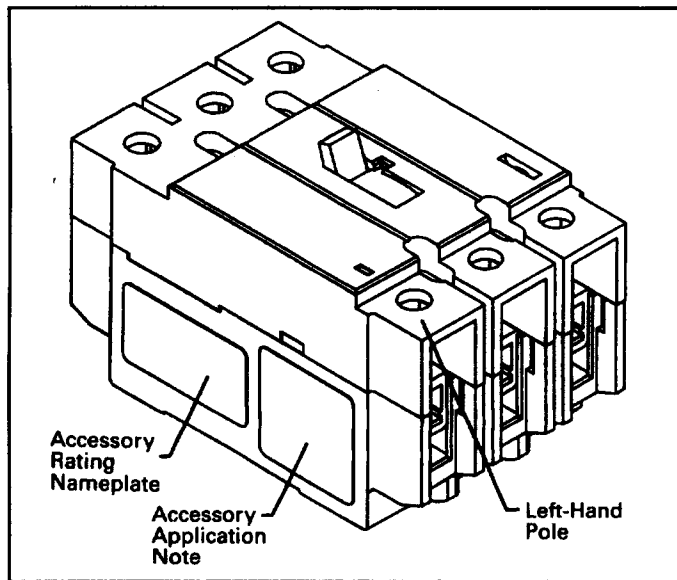

Fig. 2-6 Preferred Mounting Locations for Accessory Nameplate Labels
- 2-8. Place labels supplied with kit on device. (See Fig. 2-6.)